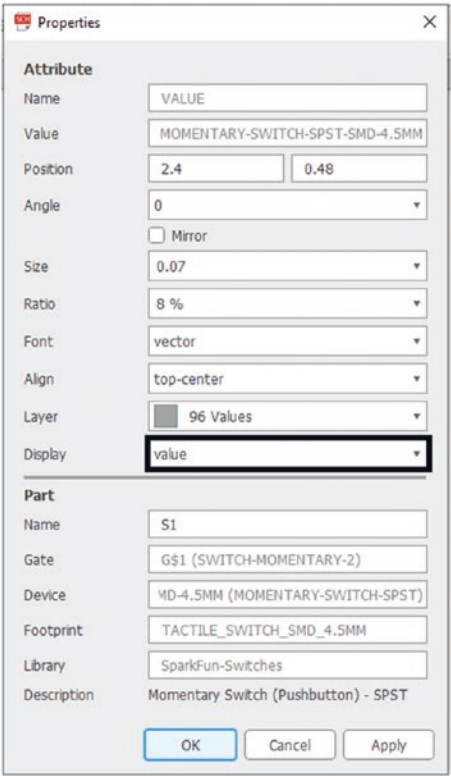

Figure 5-33. Select “off”
- 20. Select the “Display” drop-down menu and select “off.” See Figure 5-33.